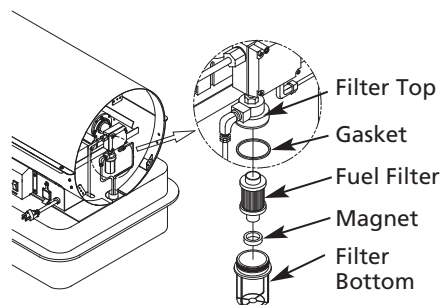

Figure 18 – Fuel Pump Filter
- Remove fuel filter, gasket, magnet from filter bottom (See Figure 18).